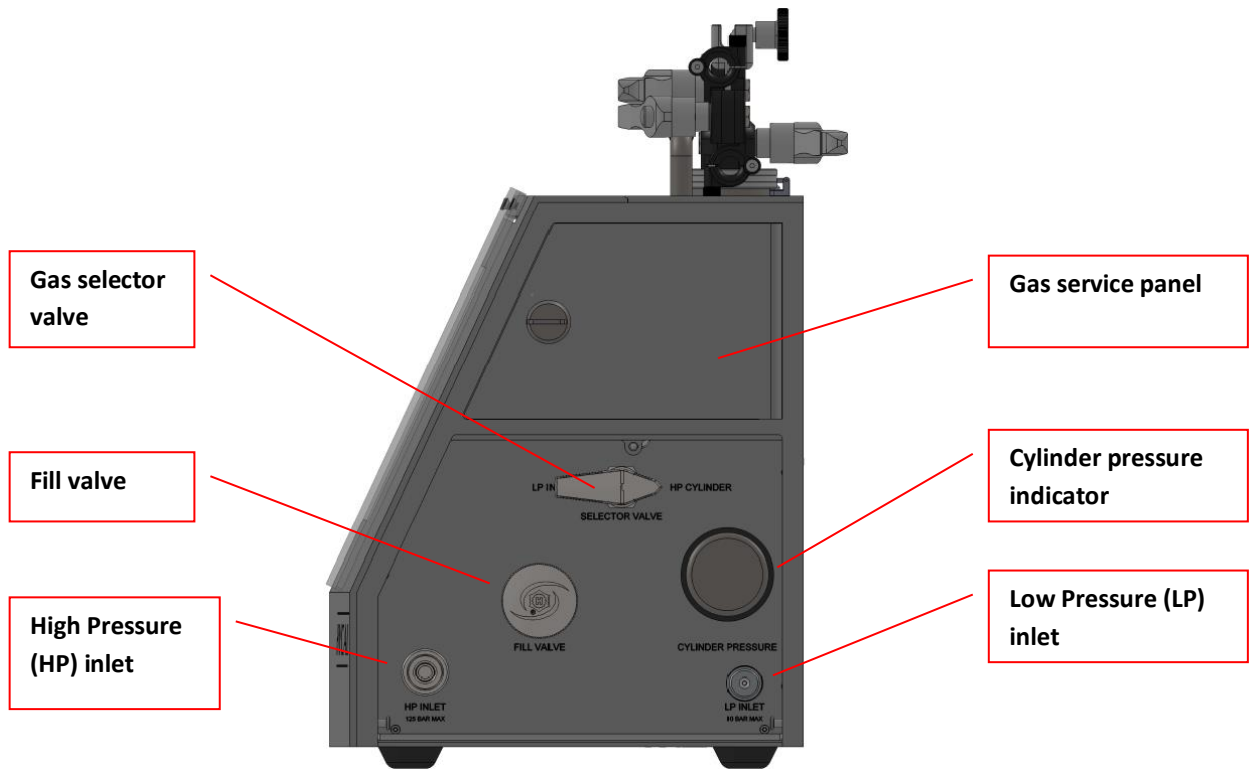

Figure 4: Gas panel
3. Wait until the cylinder pressure indicator reads zero (Figure 4)